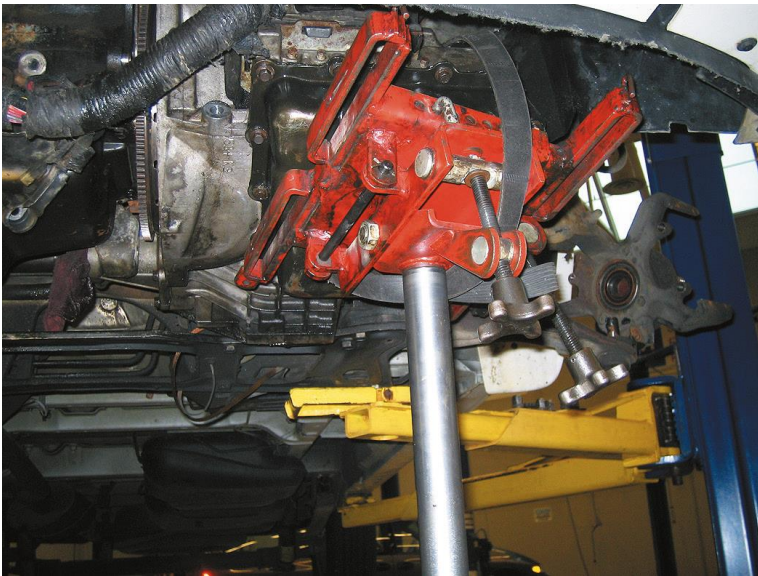

Figure 3. Use a transmission jack for safety.
STEP 8 Support the transmission/transaxle on a jack and remove the attaching bolts at the bell housing of the engine. Figure 3.